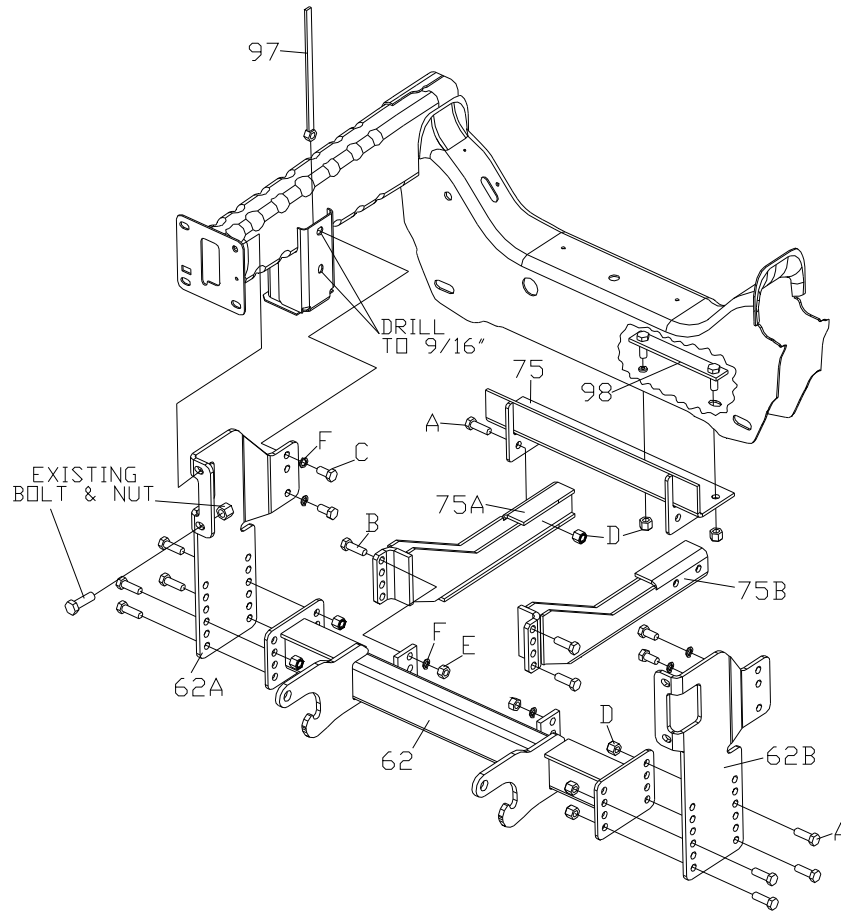

Figure 1
1. There are three nuts holding the bumper to the frame on each side. Remove the inside nuts on each frame horn (see FIG 1). On the driver's side frame horn, bend the tab between the two inside bumper mounting holes, flat with the frame horn. If the vehicle is equipped with tow hooks - remove tow hooks, tow hook mounting brackets, and horizontal support rod.
3. Install Push Beam Support Plates (62A & 62B) with existing bolts and nuts used for mounting the bumper (bottom holes on inside of frame horns). Insert two ½"-13 x 1-1/2" GR5 Hex Head Bolts (A) into empty top mounting holes from inside the bumper, through the frame horns, and Push Beam Support Plates (62A & 62B). Attach with two ½"-13 Nylon Lock Nuts (D), leaving them finger tight.
5. Reinstall Push Beam Support Plates (62A & 62B) as described in Step 3. Insert four ½"-13 x 1-1/2" GR5 Hex Head Bolts (C) with ½" Split Lock Washers (F) under the BOLT HEADS through the back mounting holes of Push Beam Support Plates (62A & 62B). Thread into four ½" Nut Bars (97) inserted through top of tow hook mounting posts, leaving them finger tight.
6. Insert Driver Side Bolt Plate (98) and Passenger Side Bolt Plate (99) into existing holes/slots of the frame cross member by inserting through respective ends of cross member.
7. Place the Skid Plate Attachment (75) on the bottom of the cross member and attach with $\frac{1}{2}$ "-13 Nylon Lock Nuts (D). Leave finger tight.
8. Attach Angle Brackets (75A & 75B) to Skid Plate Attachment (75) with $\frac{1}{2}$ "-13 x 1-1/2" GR 5 Hex Head Bolts (A) and $\frac{1}{2}$ "-13 Nylon Lock Nuts (D). They must go to the inside of the tabs on Skid Plate Attachment (75). Leave finger tight.
9. Bolt Push Beam Assembly (62) onto Push Beam Support Plates (62A & 62B) using $\frac{1}{2}$ "-13 x 1-1/2" GR 5 Hex Head Bolt (A) bolts and $\frac{1}{2}$ "-13 Nylon Lock Nut (D). Leave finger tight.